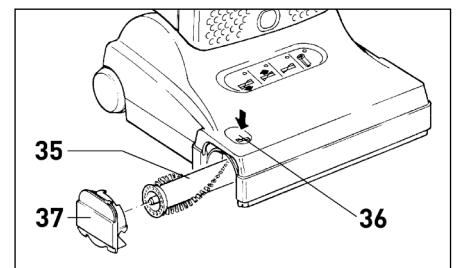
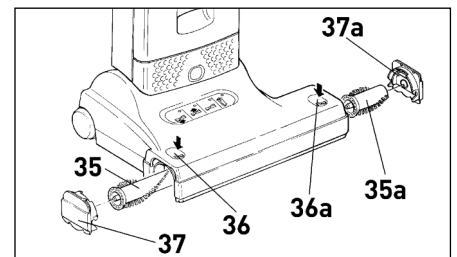

Figure 13 (X4)
Figure 13a (X5)
Changing the Brush Roller(s) - Figure 13 (X4), Figure 13a (X5)
The sealing strip (39) is located just behind the brush roller opening. The sealing strip seals the power head to hard floors to prevent kick-back of debris while vacuuming. To replace a worn sealing strip, push the release button, remove the side plate (36 and 37 in figure 13 & 13a) and slide old strip out. Insert the new strip into the slot and slide into place.